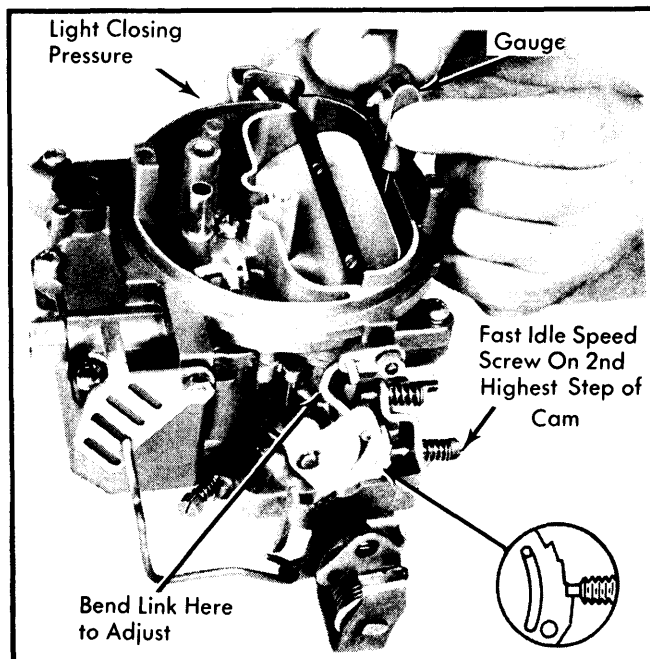

Fig. 4 Adjusting Fast Idle Cam Position
- 1) Place fast idle speed adjusting screw on second highest step of fast idle cam. Press lightly on choke shaft lever to move choke valve to closed position. See Fig. 4.